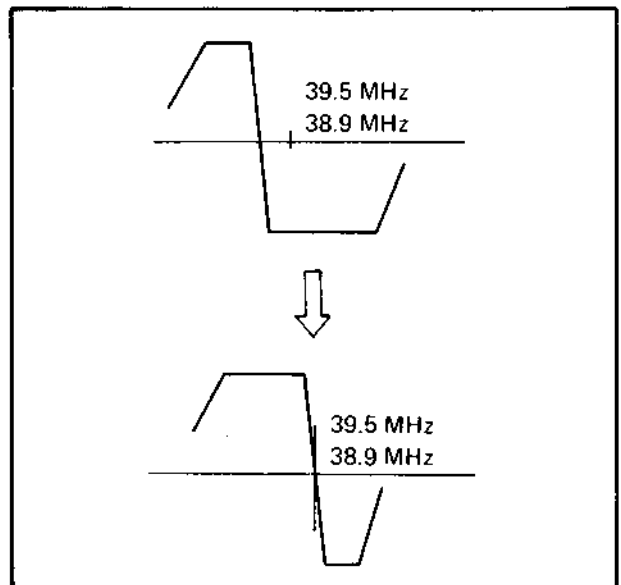

Fig. 5-49
4. Adjust the core of T402 so that the 39.5 MHz (HR-3660EK), 38.9 MHz (HR-3660EG) marker comes to the center of the "S" curve as shown in Fig. 5-49.